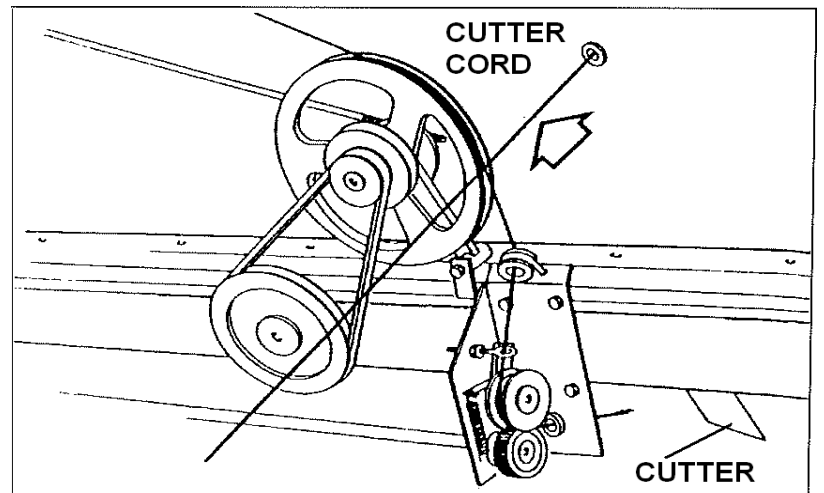

Fig. 7
5. For short products it is advisable to use the double binding option. To do this, pull the cutter cord (Fig. 7) which disables the cutter and enables the twine to go around the bale twice.